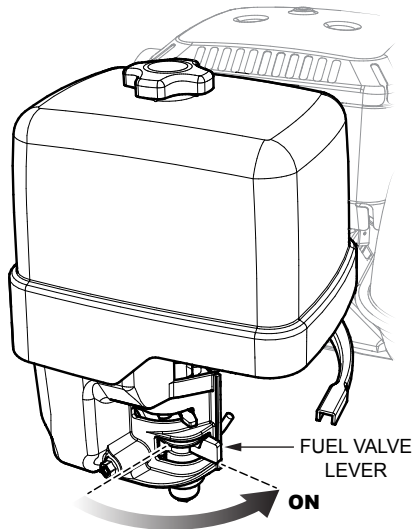

Figure 8. Engine Fuel Valve Lever (ON Position)
2. Place the engine fuel valve lever (Figure 8) to the **ON** position.